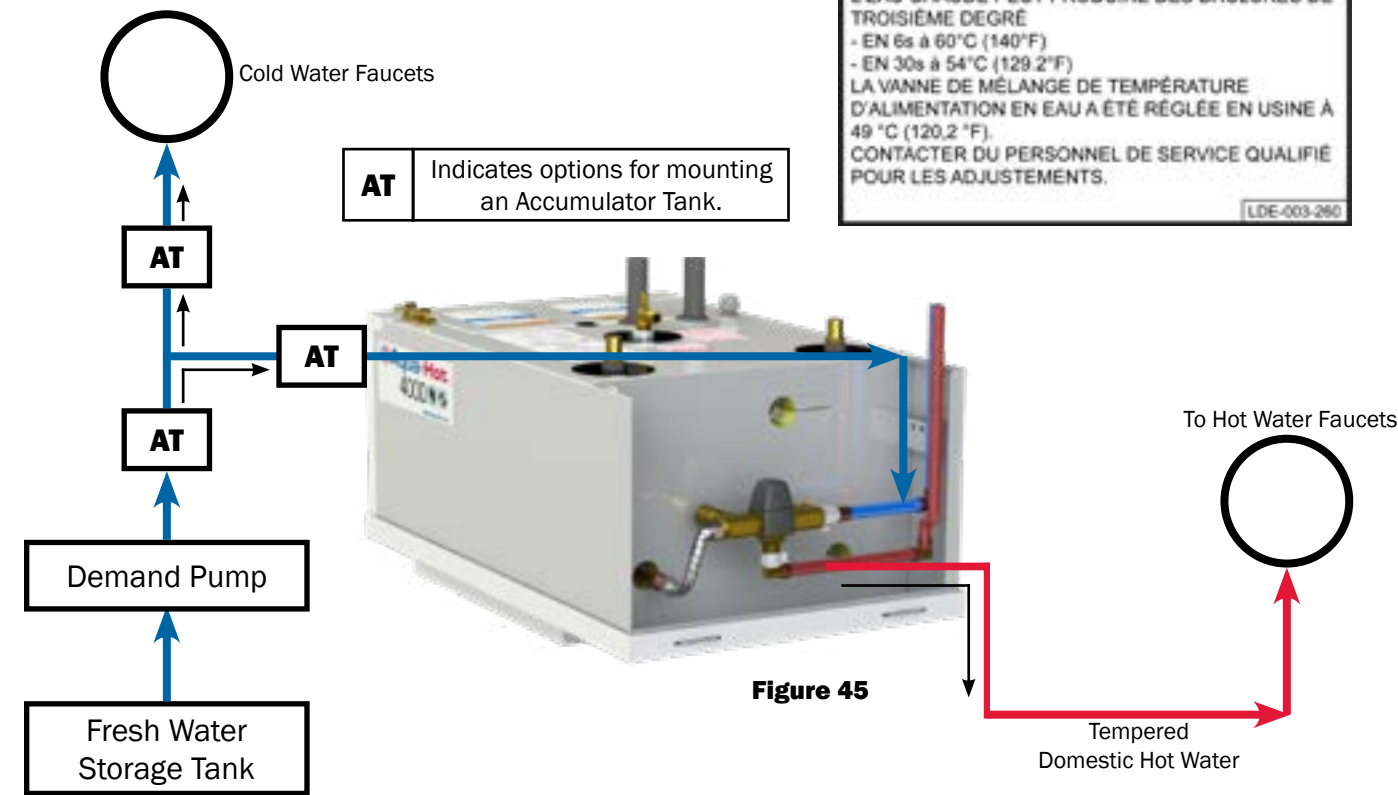

Figure 45
- Plumb the domestic water system according to Figure 45.
Please note it may be necessary to utilize an accumulator tank within the domestic water system. Reference Figure 45. Although the 400D is equipped with a pressure relief valve, the use of an accumulator tank will help prevent excessive “weeping” of the valve. Manufactured pressure relief valves will cause the “seat” in the valve to deteriorate, which can cause the valve to fail permanently. Be sure to reference the RVIA’s (Recreational Vehicle Industry Association) technical publication titled “Recreational Vehicle Plumbing Systems”. To obtain a copy of this publication, contact RIVE at (730) 620-6003 or visit them online at www.rvia.org.